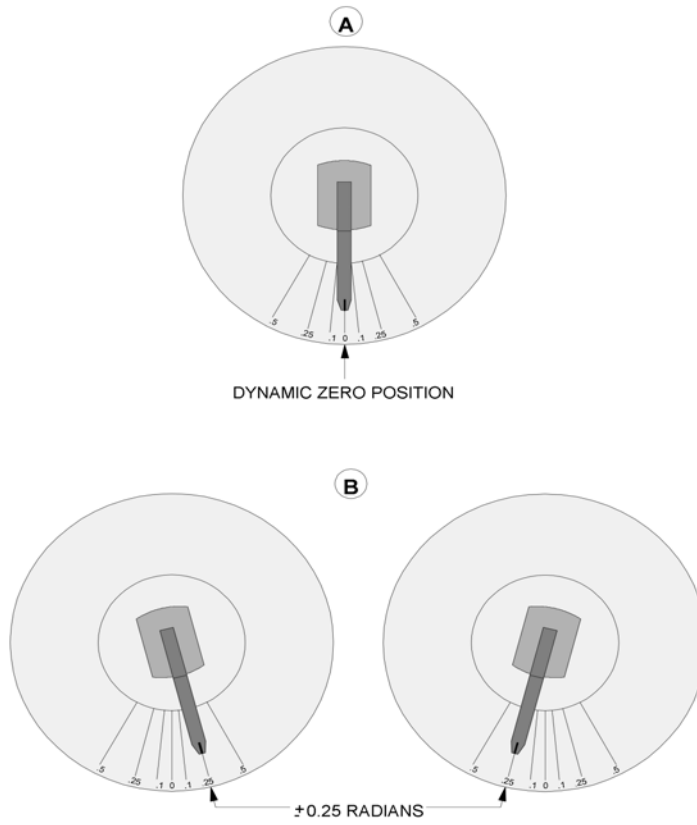

Figure 5-9. Strain Calibration Check with Pointer
4. Use the Strain Offset to align the pointer with dynamic zero position (Figure 5-9).
- b. The pointer deflects  $\pm 0.25$  radians, as shown in Figure 5-9.